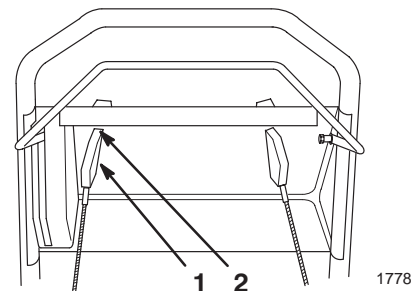

Figure 9
1. Pry up the tab on the backside of the control panel that holds the old throttle control in place (Fig. 9).